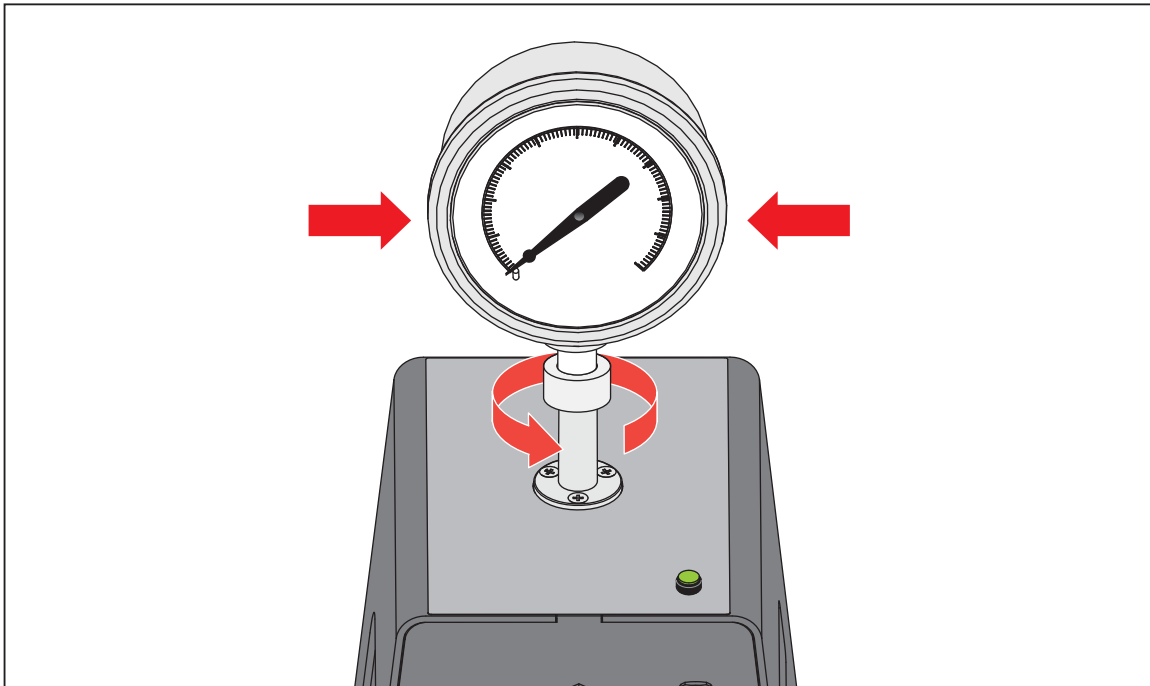

Figure 21. Tighten Gauge
4. Hold the instrument steady, while turning the gauge adapter COUNTER-CLOCKWISE until it pulls down onto the O-ring, see Figure 21.